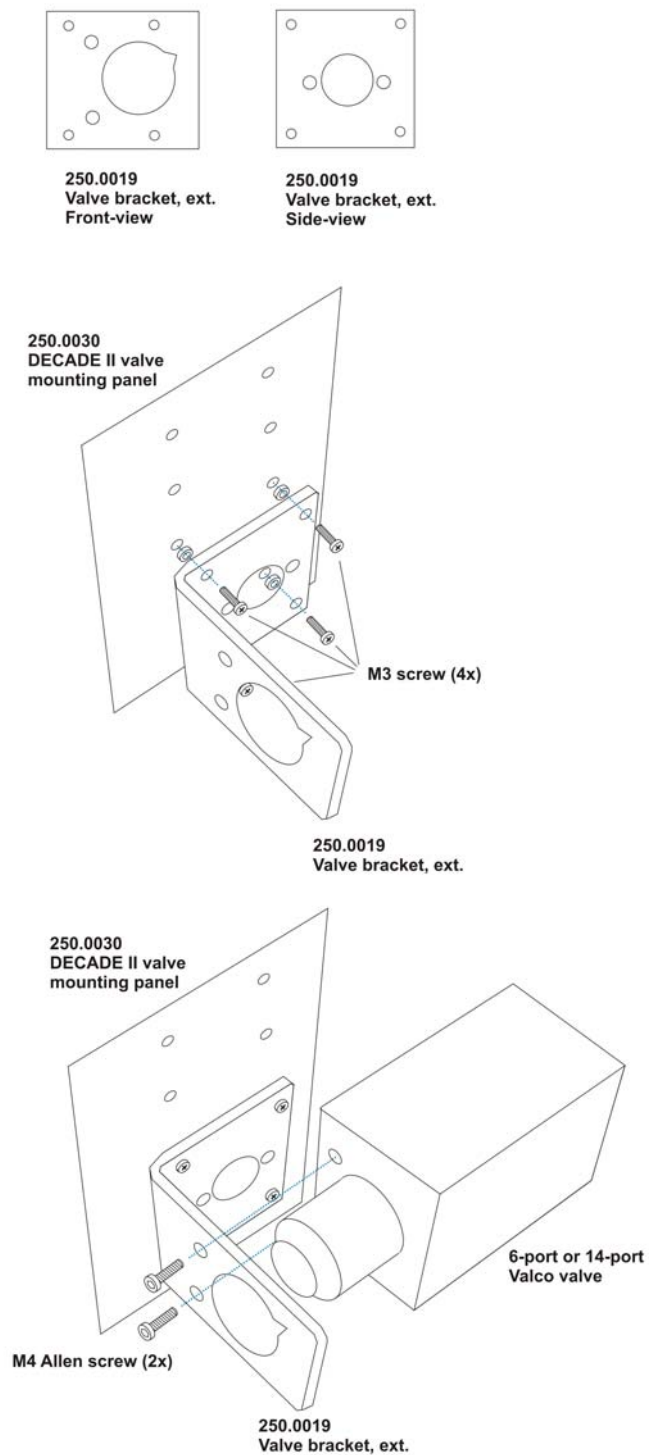

Figure 4. Mounting of bracket and valve on DII valve panel.
- Mount valve in DECADE II bracket with the two M4 Allen screws as shown in figure 4. Note: there is a special indentation in the bracket to facilitate the screw to secure the valve head. Make sure that port 1 of the valve is positioned upwards.